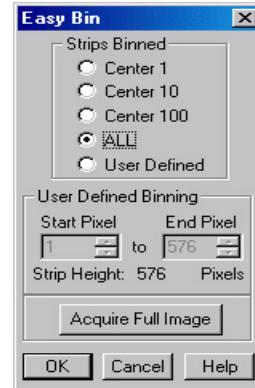
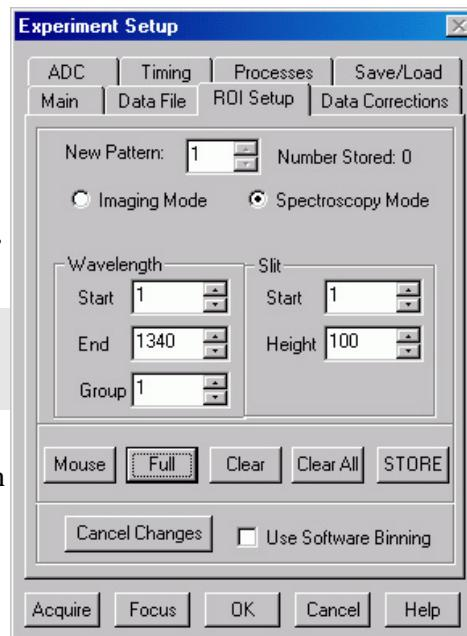

Figure 131. Easy Bin dialog
Figure 132. ROI Setup tab page
A Region of Interest (ROI) may be the entire CCD array or it may be a rectangular subregion of the array. For data acquisition, the definition of such a region is done either from the Easy Bin dialog (Figure 131, page 148) accessed from the Acquisition menu or from the ROI Setup tab page (Figure 132, page 149), accessible after selecting Experiment Setup from the Acquisition menu. Easy Bin is a simple way of defining a single full chip width ROI. ROI Setup allows you to create multiple ROIs with greater flexibility in ROI location and width.
2. On the **Easy Bin** dialog (Figure 131), click on the appropriate radio button:
1. Open the **Experiment Setup** dialog and click on the ROI Setup tab to open the **ROI Setup** tab page (Figure 132).